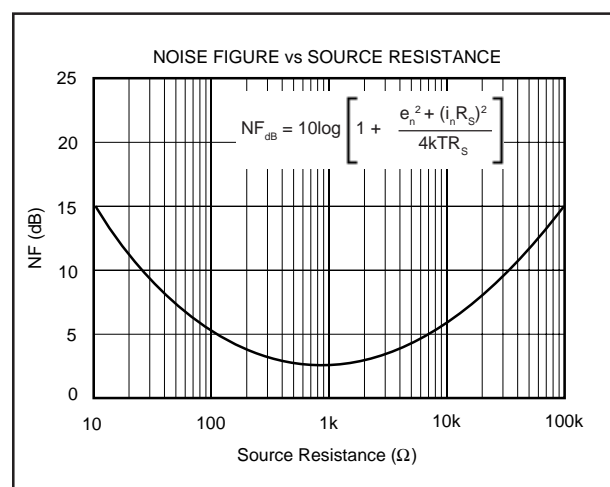

FIGURE 10. Noise Figure vs Source Resistance.
The OPA620's voltage and current noise spectral densities are specified in the Typical Performance Curves. For RF applications, however, Noise Figure (NF) is often the preferred noise specification since it allows system noise performance to be more easily calculated. The OPA620's Noise Figure vs Source Resistance is shown in Figure 10.